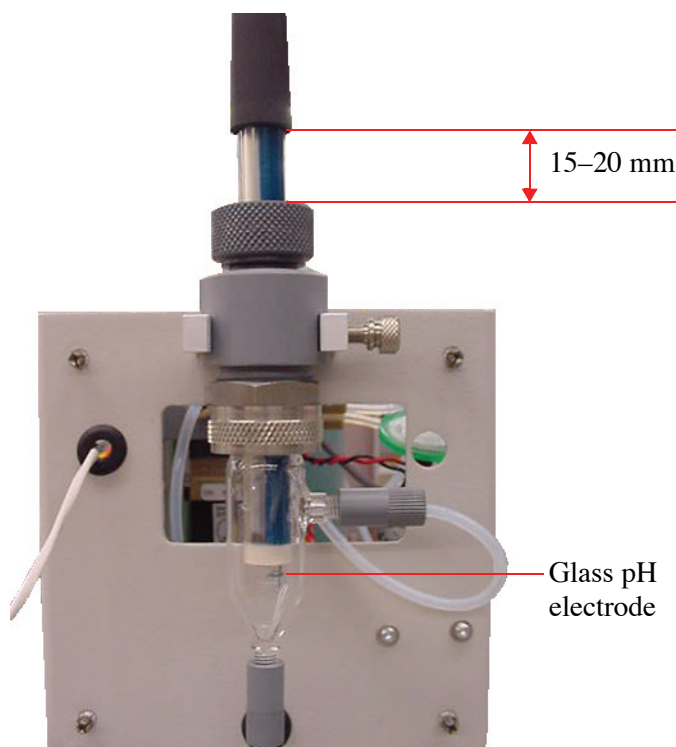

Figure 7.3. pH probe installation
- f. Insert the pH probe into the reservoir, being careful not to break the small glass pH electrode. Position the probe such that the probe cable is approximately 15–20 mm above the top of the pH fitting nut (refer to Figure 7.3).